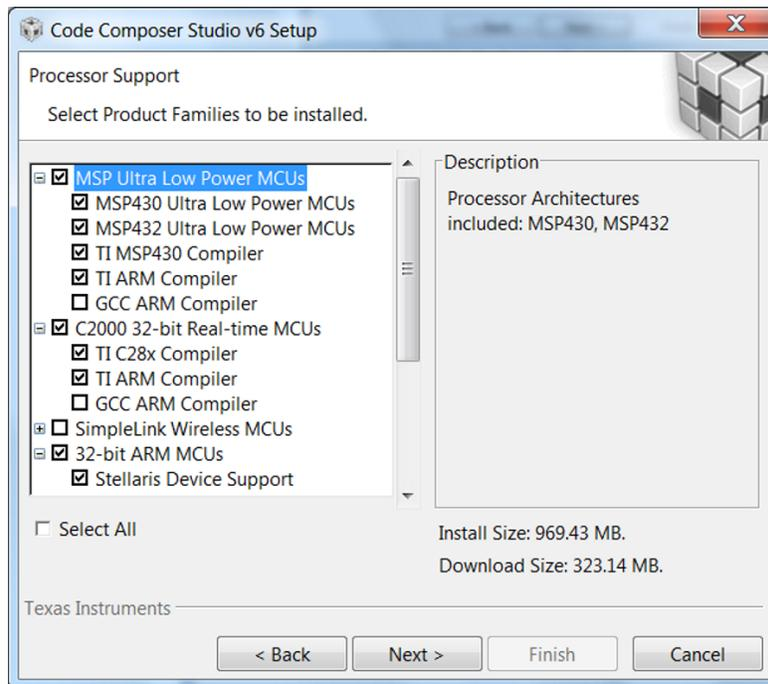

Figure 11. Processors Supported by CCS
Step 4. Choose the processor architectures to install (see Figure 11).